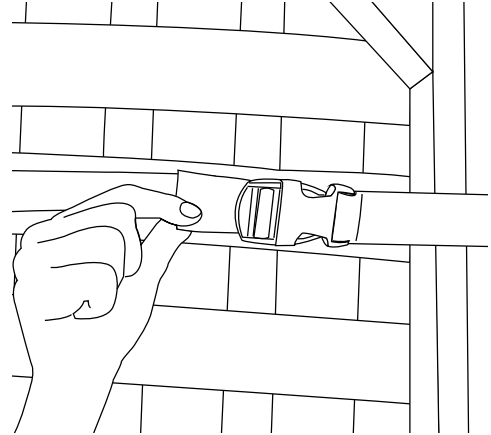

Fig. 22
- When buckles "click", the straps are fully locked. Pull the free end of the strap to tighten on the chair. Check underneath chair to make sure buckles are fully locked (Fig 22).